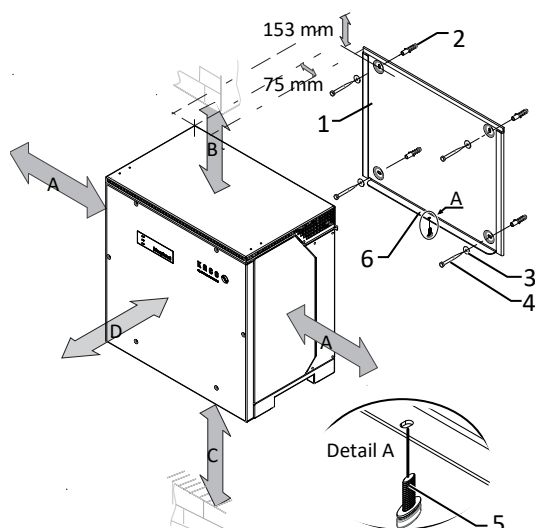

Fig. 10: Minimum clearances for wall mounting
- 3 Insert the screw provided into the lug of the mount and secure the device to prevent it from being lifted off  T30 /  2 Nm [See figure 10] [▶ Page 17].